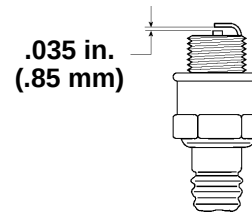

Figure 18
4. Set the spark plug gap at .035 inch (.85 mm) (Fig. 18).